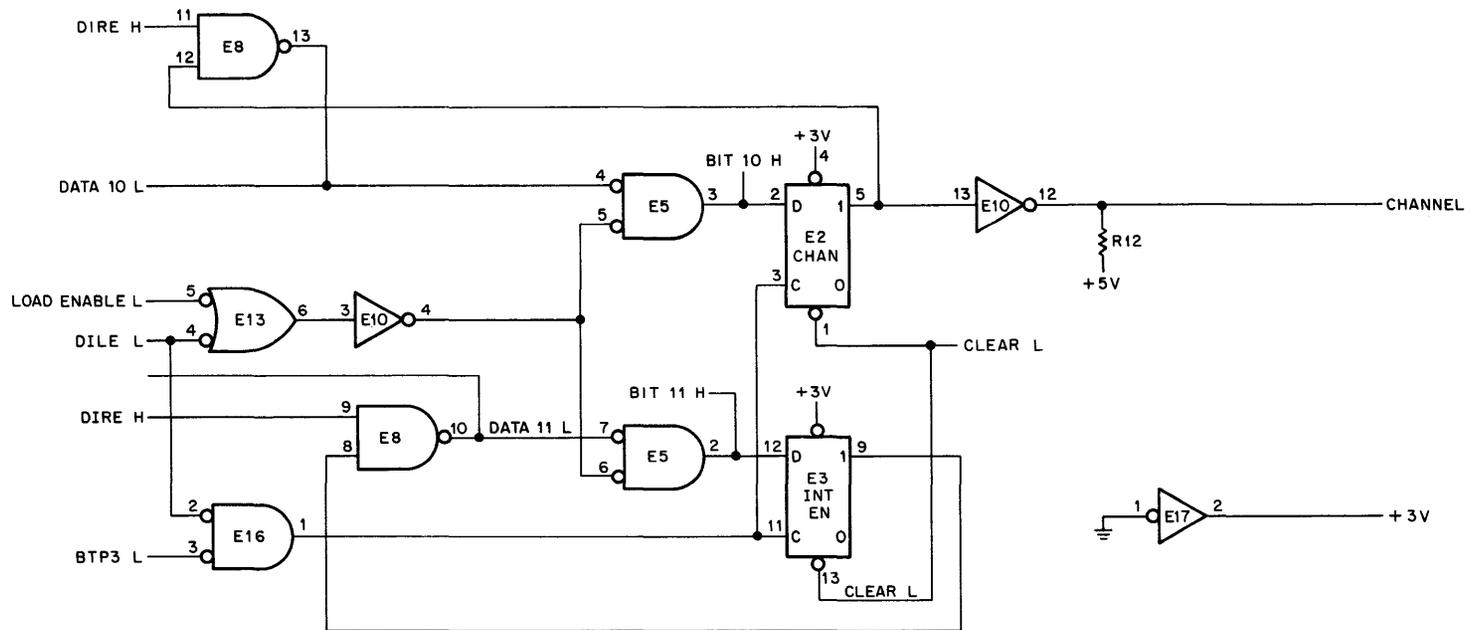

Figure 4-37 Enable/Status Register
4.4.2.2 Enable/Status Register — The Enable/Status Register consists of the CHANNEL SELECT, COLOR SELECT, ERASE, STORE, WRITE THROUGH, INTERRUPT ENABLE, and DONE flip-flops (see Figures 4-37 and 4-38). The Enable/Status Register will provide signals to enable the interrupt system, select a channel in the oscilloscope for displaying data, select color, store, write through, produce an erase cycle, and provide status bits to be transferred to the AC.
4.4.2.2 INTERRUPT ENABLE Logic – INTERRUPT ENABLE is used to enable the Interrupt logic shown in Figure 4-39. INTERRUPT ENABLE E3 will be cleared by CLEAR L from the programmer's console, or by the DILE instruction ANDed with TP3 at E16 if DATA 11 is low. When DATA 11 is high, the INTERRUPT ENABLE flag will set. DATA 11 is transferred to the M869 module by the DILE instruction (see Figure 4-37). DIRE on pin 9 of E8 will enable E8 and will allow the set side of E3 to be applied to the Data Bus. The set side of E3 will be transferred to the AC by a DIRE instruction to indicate the status of the INTERRUPT ENABLE flag.
4.4.2.3 CHANNEL SELECT Logic – The CHANNEL SELECT flip-flop E2 will be used to select one channel on the oscilloscope for display of data (see Figure 4-37). DATA 10 is transferred from the AC by a DILE instruction to set E2 if bit 10 is low, or clear E2 if bit 10 is high. DILE out of E13 and E10 will enable E5. If DATA 10 is low, E2 will set and select channel 2. If DATA 10 is high, the data input to E2 will be low and the clock input from E16 will clear E2 to select channel 1. The set side of E2 is tied to pin 12 of E8 and the DIRE instruction will enable E8. When E2 is set, a low (1) will be transferred to the AC to indicate channel 2 is selected. When E2 is cleared, DATA 10 will be high (0), and will indicate channel 1 is selected when DIRE is executed.